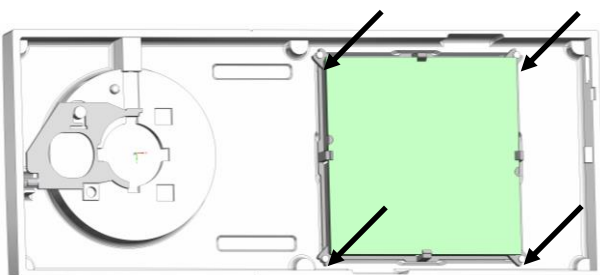

Figure 42: Mounting the keypad sub-assembly
To do so, first the keypad sub-assembly must be removed from the top part of the operating unit (8). This is done by carefully applying pressure to the areas shown in Figure 39 (do not use force or sharp-edged tools or the like). This will remove the sub-assembly from its top holders. Next, remove the keypad unit carefully from its bottom holders (see Figures 42 and 43) and then take it out of the top part of the operating unit (8) toward the back, if possible, without tilting or deforming the holding clamps.
Now rotate the keypad sub-assembly as indicated in Table 12 and insert it again into the holders of the top part of the input unit (see Figure 42) and press it carefully inside as far as it will go (do not apply force).